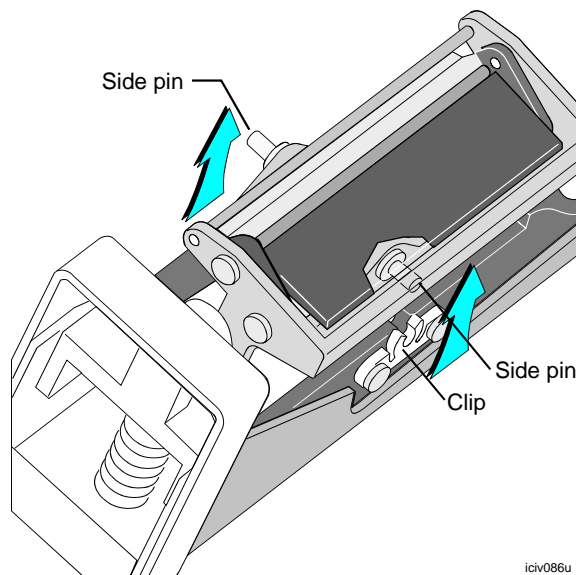

Figure 7-15: Remove the printhead from the cage
- 8 Push up on both sides of the printhead cartridge to release the printhead from the cage. Pull the printhead cartridge back until both side pins release from the clips (Figure 7-15).